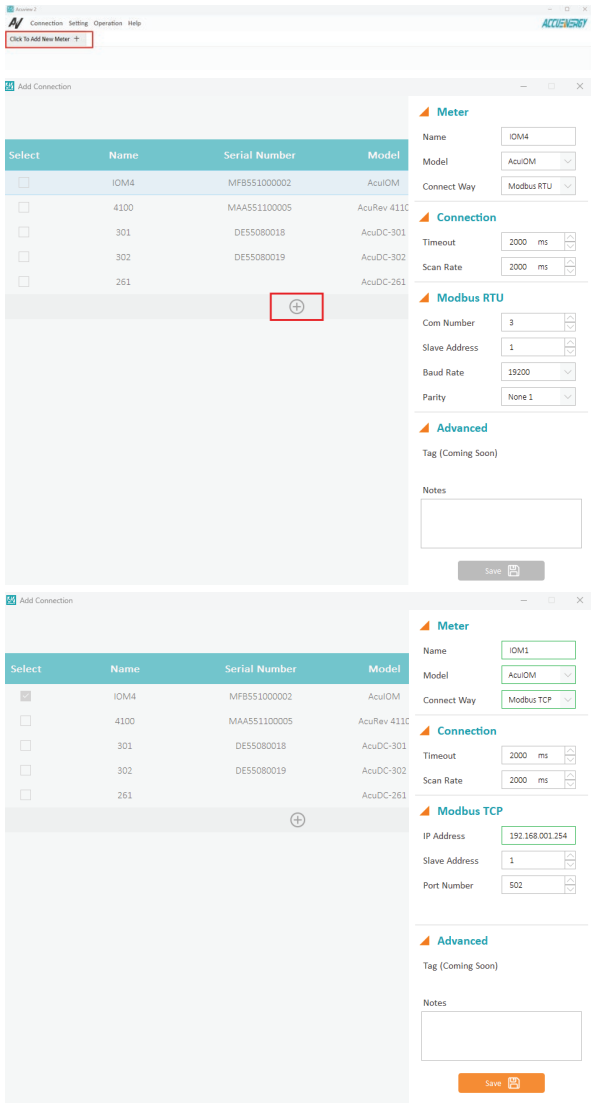

Figure 3-2 Acuvue 2 Connection Procedure
2. Click + as shown in the first image of Figure 3-2.